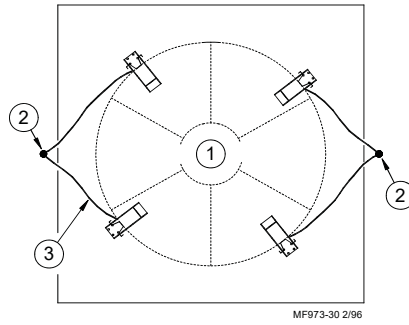

Figure 31. Ground Rod placement for single bin installations (top view).
- Standard 4-legged bin requires (2) ground rods. Two legs should be grounded to each ground rod. **See Figure 31.**